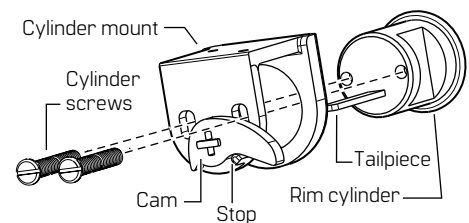

Figure 1 Assembling cylinder mount
- 1.2 With key removed and cam resting against stop, install rim cylinder through cylinder mount. Insert tailpiece into cross-hair of cam. See **Figure 1**.